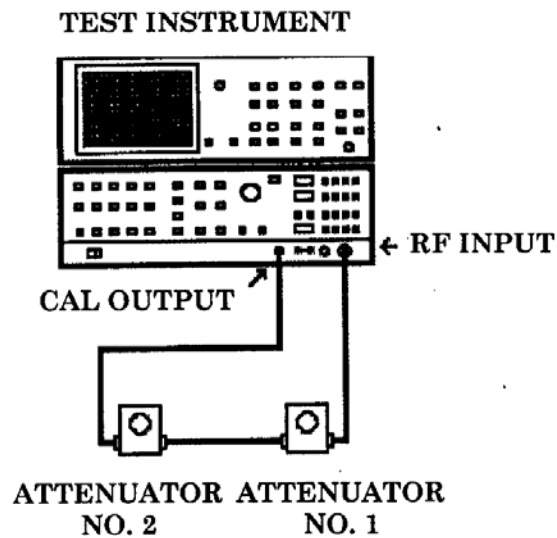

Figure 16. Attenuator connection.
(59) Multimeter should indicate between 8.5 and 11.0 V dc. If measurement is out of tolerance, adjust A4A5R2 for a multimeter indication of 9.5 ± 0.1 V dc (R).
(60) Connect equipment as shown in figure 16 below.